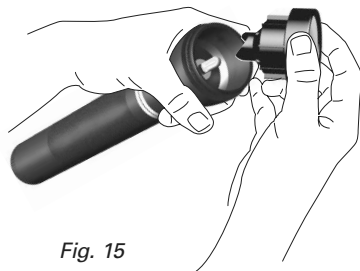

Fig. 15
1. Holding the largest part of the flashlight's head, unscrew the face cap/reflector assembly. It will come out with the face cap. This is factory assembled and should not be taken apart (Fig. 15).
5. Raise the head of the light (Fig. 15) to its full up position. Reinsert face cap and reflector assembly and screw on tightly.